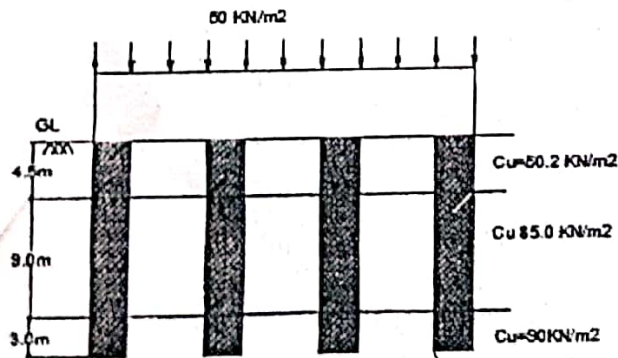

Fig. 4(b)
- (b) The section of a 3x4 group pile in a layered saturated clay is shown in Fig. 4(b). The piles are square in cross section (300mmx300mm). The center to center spacing of the piles is 900mm. Determine the allowable load bearing capacity of the pile group. Use factor of safety equals to 4. 8